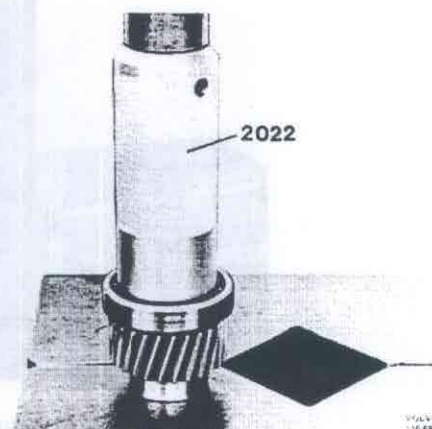

Fig 46-144 Pressing on the bearing
1. Press one of the ball bearings onto the gear with 2022, Fig. 46-144.